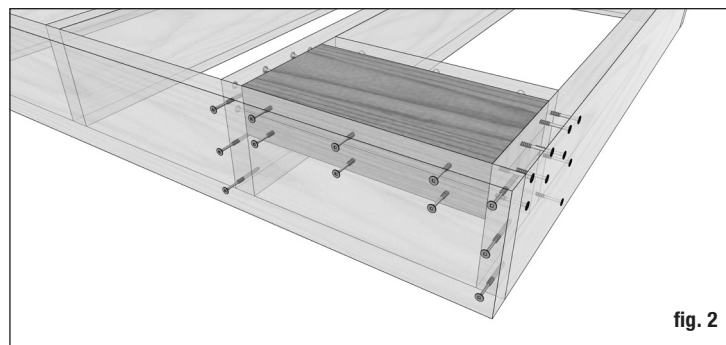

fig. 2
Step 1: Install posts by attaching the aluminum base to the surface of the deck. Position the post so the fastener will go into the floor joist, and make sure the decking is firmly attached to the joist at the location of the posts. Proper structural blocking/framing under the decking material is required when attaching the post to a wood frame deck because decking alone is not approved as structural framing (fig. 2).